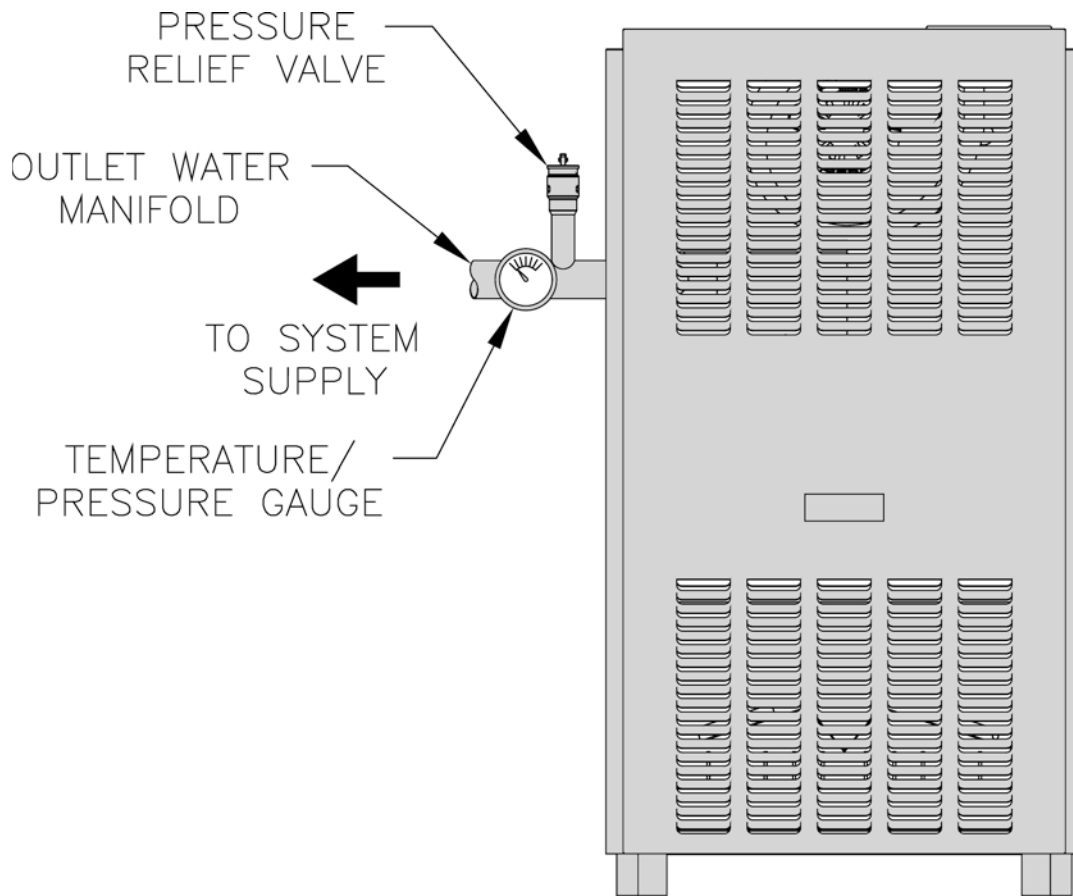

Figure 24: Supply Water Manifold Piping
- See Figure 24. Pressure Relief Valve must be installed with spindle in vertical position. Installation of the relief valve must comply with the ASME Boiler and Pressure Vessel Code, Section IV.